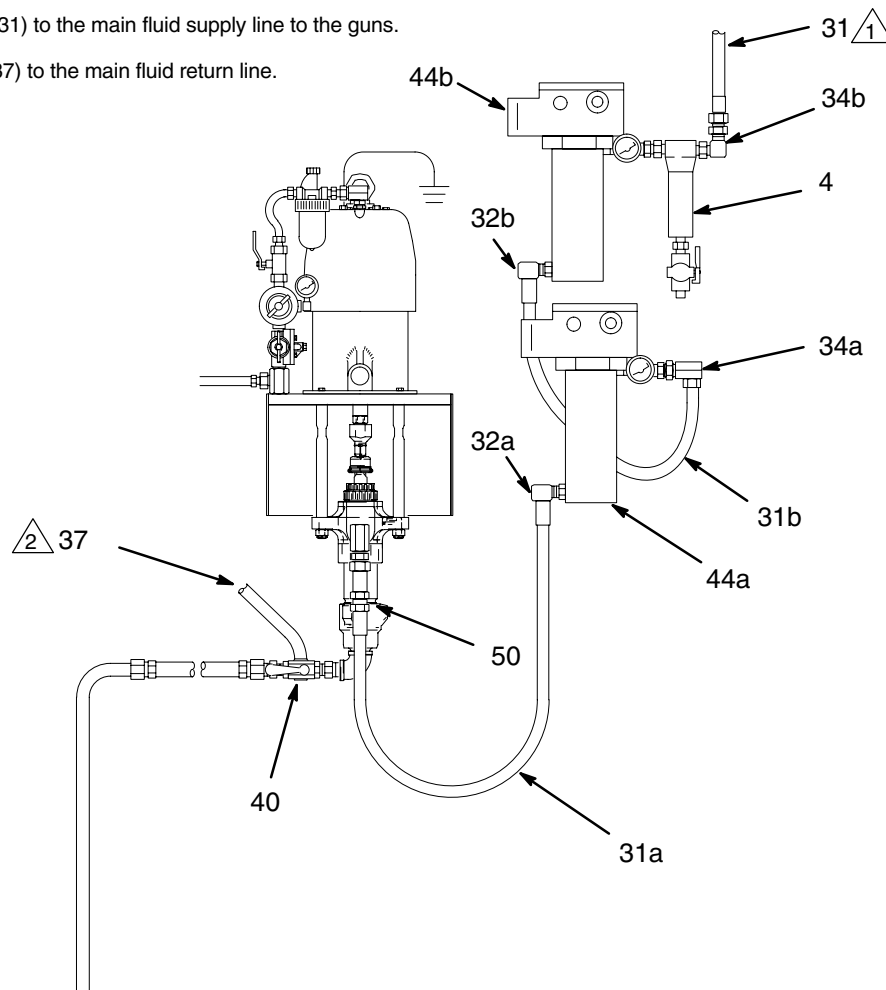

Fig. 4
5. Bring the hose (31a) from the inlet elbow (32a) of the lower heater (44a) and connect it securely to the swivel (50) coming from the pump outlet. See Fig. 4.
7. Bring the fluid supply hose (31) from the swivel (34b) at the fluid filter (4) outlet and connect it to the main fluid supply line to the guns.
8. Bring the fluid return hose (37) from the three-way ball valve (40) and connect it to the main fluid return line.
- 1  Connect supply hose (31) to the main fluid supply line to the guns.
- 2  Connect return hose (37) to the main fluid return line.
6. Screw an elbow (32*) onto the lower heater's inlet. Screw the coupler (63) onto the elbow. Attach the heater hose (31*) to the coupler. Connect the other end of the hose to the swivel (50*) coming from the pump outlet.
7. Screw an elbow (32*) onto the upper heater's inlet. Screw the coupler (63) onto the elbow. Attach the second heater hose (31*) to the coupler. Run this hose to the left of and behind the lower heater. See Fig. 4.
8. Install the bushing (62) and a 3/8 npt nipple (33*) in the lower heater's outlet. Screw the rigid end of the union (34*) onto this nipple, and screw the swivel end of the union onto the free end of the second heater hose (31*).